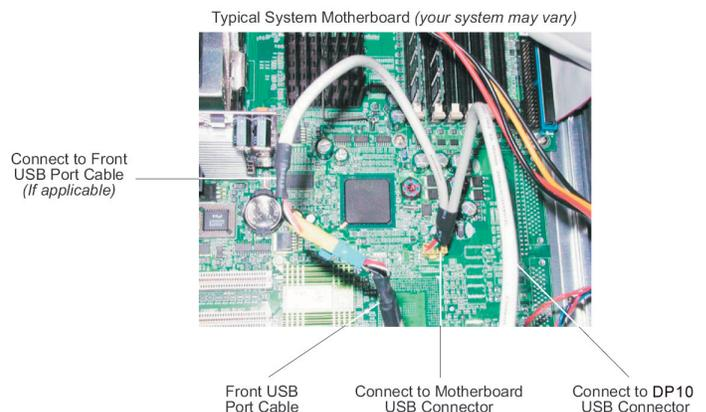

Figure 1: Internal USB Cable
5. Locate a spare 9-Pin USB connector on the system motherboard and connect the female connector on the split USB cable (provided) to it (Figure 1).
Note: If your system motherboard has only one 9-Pin USB connector and it is connected to the front USB ports, disconnect the front USB port cable from the system motherboard USB connector. Connect the female connector on the split USB cable (provided) to the newly vacated USB connector located on the system motherboard (Figure 1). If applicable, connect the male connector on the split USB cable to the front USB port cable (Figure 1). Make sure the red wires on both cables are correctly aligned.